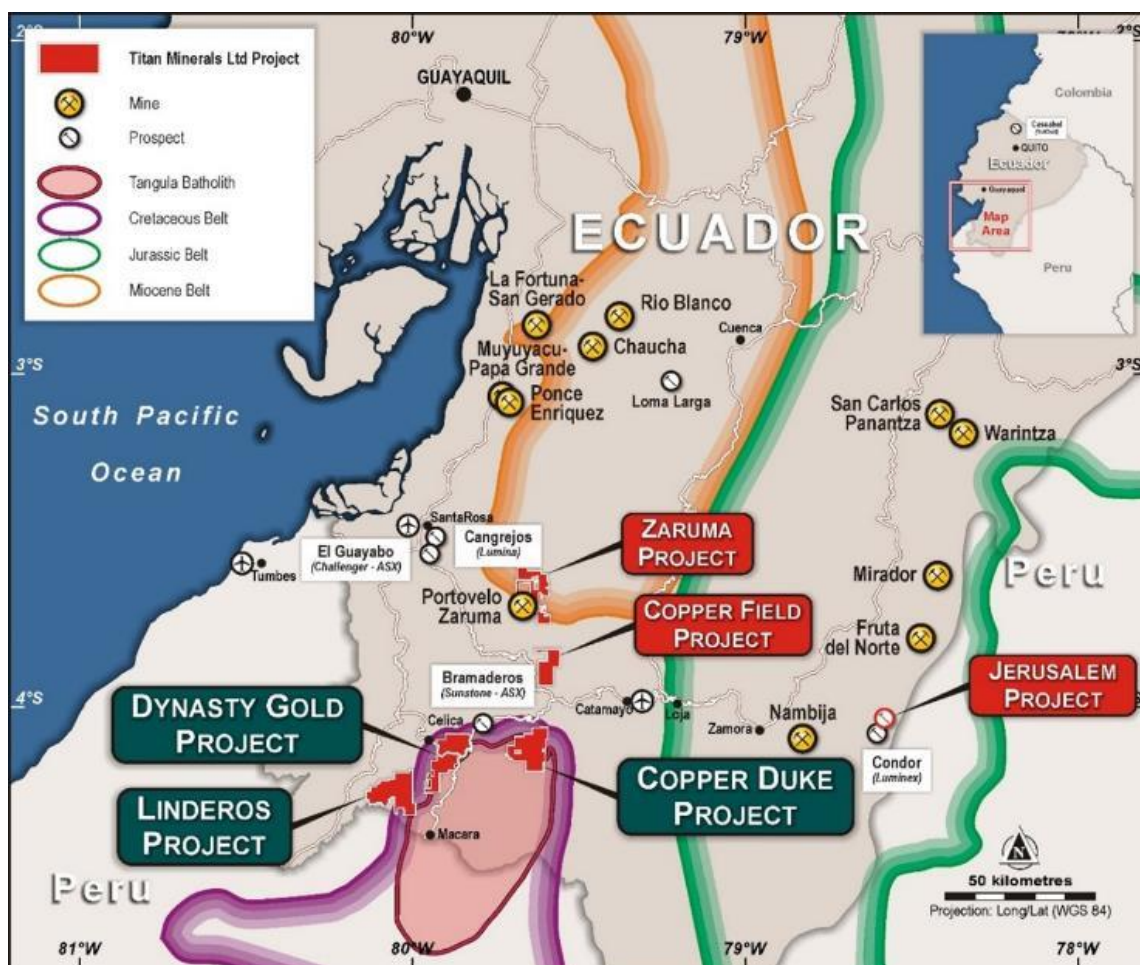

Figure5: Location of Titan Minerals Projects in Southern Ecuador
Dynasty is an advanced stage exploration project located in the Loja Province of southern Ecuador (refer to Figure 5) and currently hosts a foreign resource estimate of 2.1 million ounces averaging 4.5g/t gold(2) reported in compliance with Canadian NI 43-101 standards. The project comprises five concessions totalling 139 square kilometres. Three